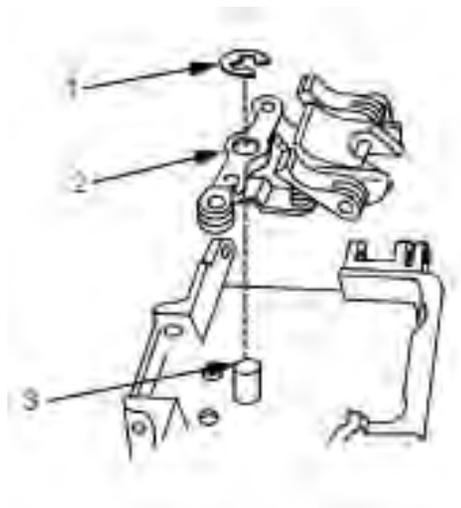

Figure 53. Retaining Ring, Feed Pawl Assembly, Feed Pawl Pivot Post
25. Place feed pawl assembly (Figure 53, Item 2) on feed pawl pivot post (Figure 53, Item 3), and secure by inserting new retaining ring (Figure 53, Item 1) into groove of feed pawl pivot post (Figure 53 Item 3).